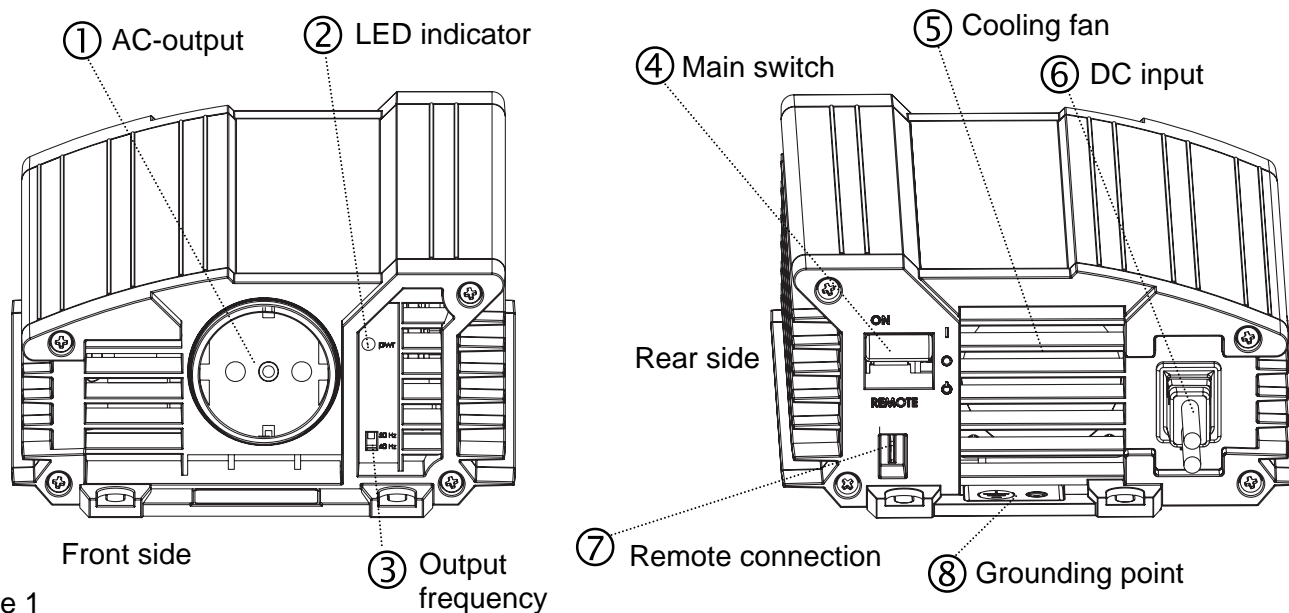

Figure 1
See figure 1. On the front side of the AC Master a small switch (3) can be found to adjust the output frequency.
- Before installing the AC Master make sure the main switch (figure 1, ref. 4) is set to the OFF position.